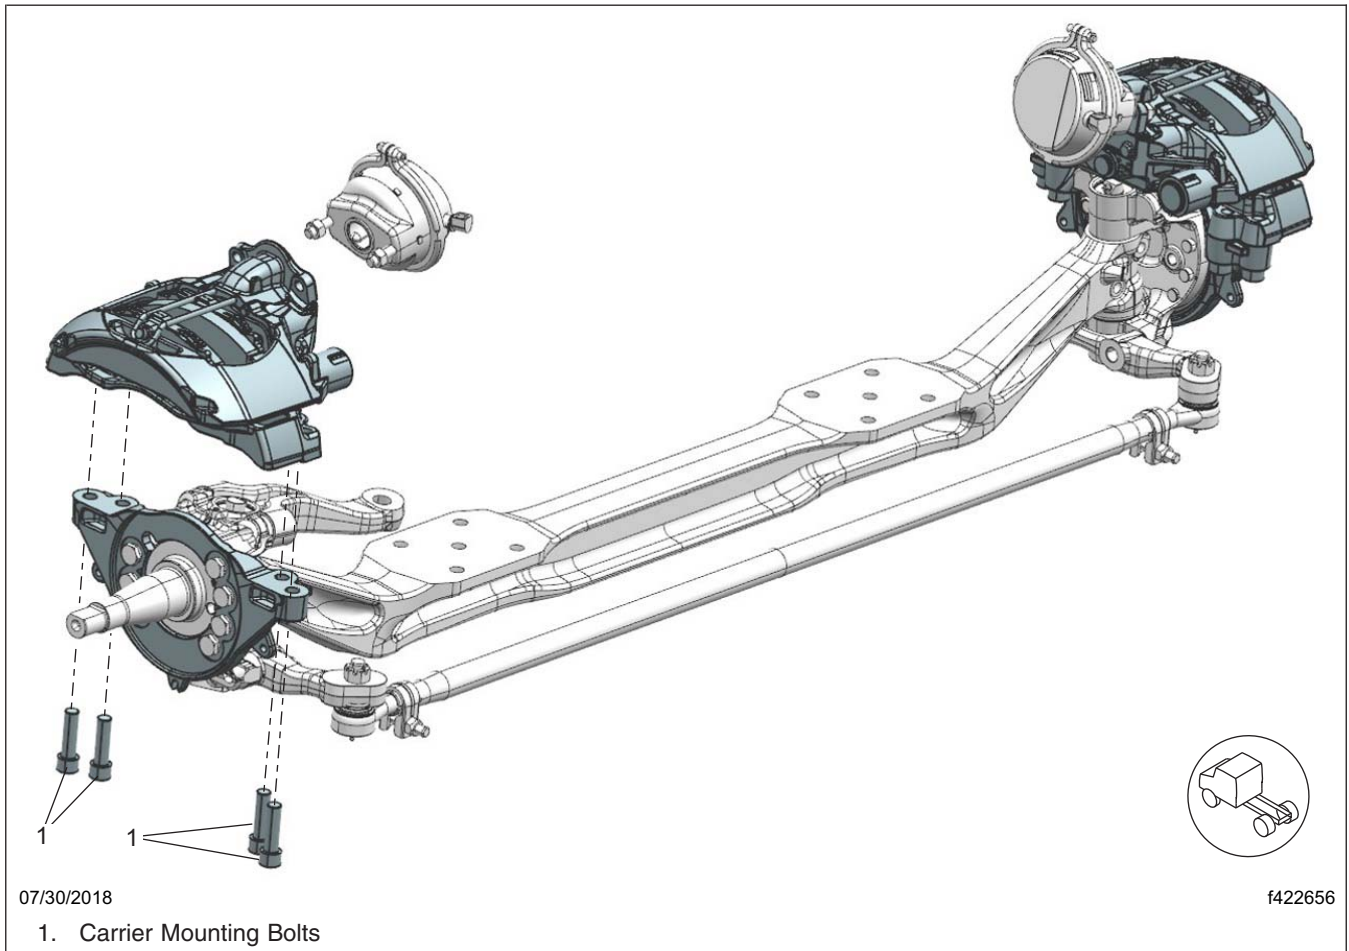
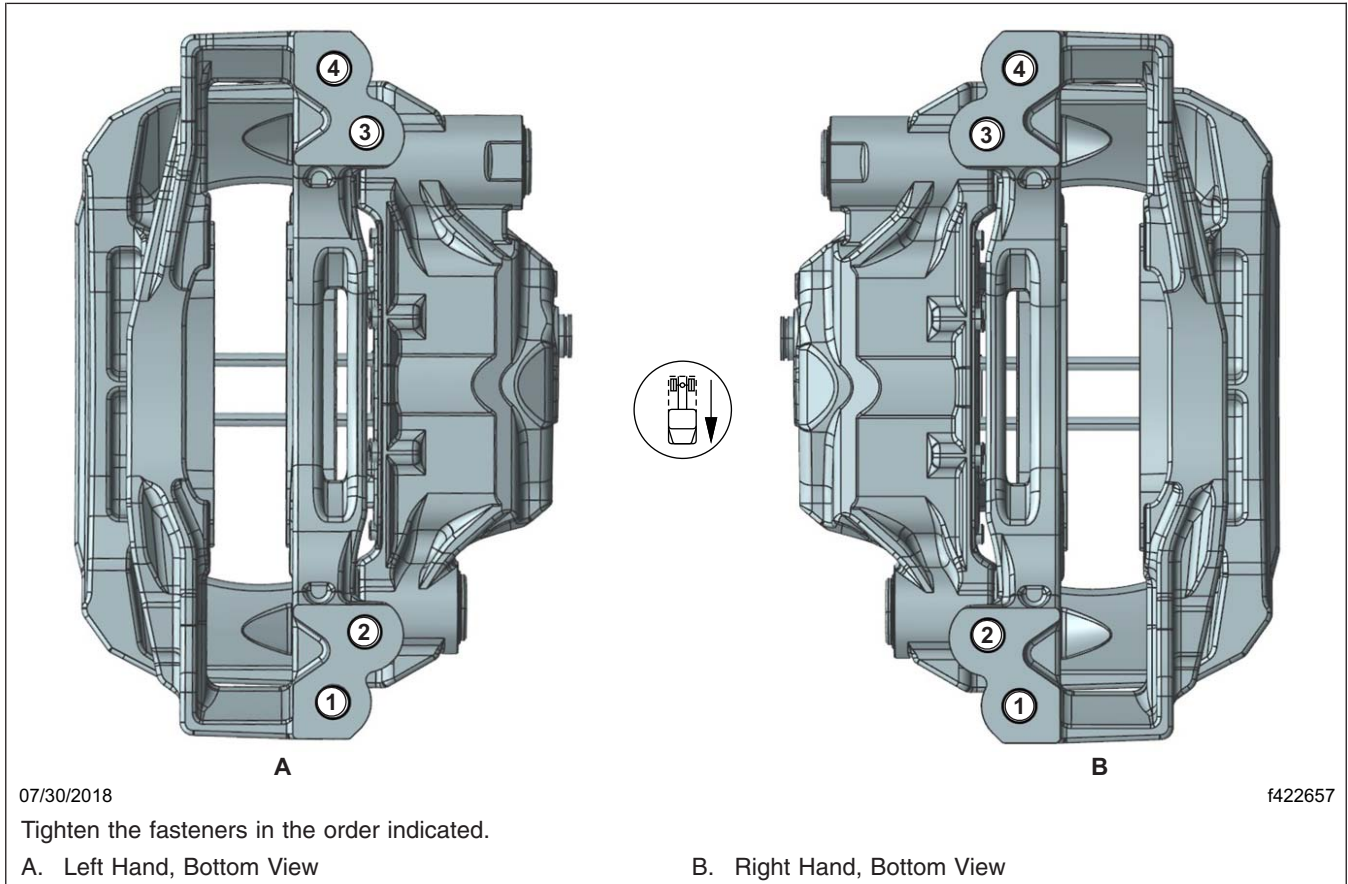

Fig. 8, Wabco Maxxus Radial Mounted Calipers
Fig. 9, Wabco Maxxus Radial Mounted Caliper Tightening Pattern
9. Align each caliper/carrier assembly with the rotor by pushing the fixed pin side of the caliper against the shelf on the torque plate, then install the caliper/carrier assembly using new caliper mounting bolts. See Fig. 8 and Fig. 9.
10. Tighten the carrier mounting bolts in two steps, using the pattern shown in Fig. 9.